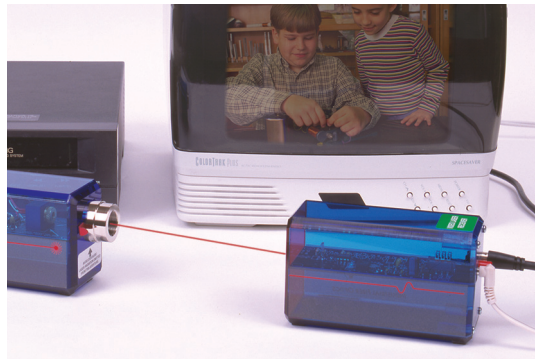

Figure 2. Equipment setup for transmitting video signals by light.
1. Position the VCR, laser, Laser Video Receiver and television on the table top as shown in **Figure 2**.